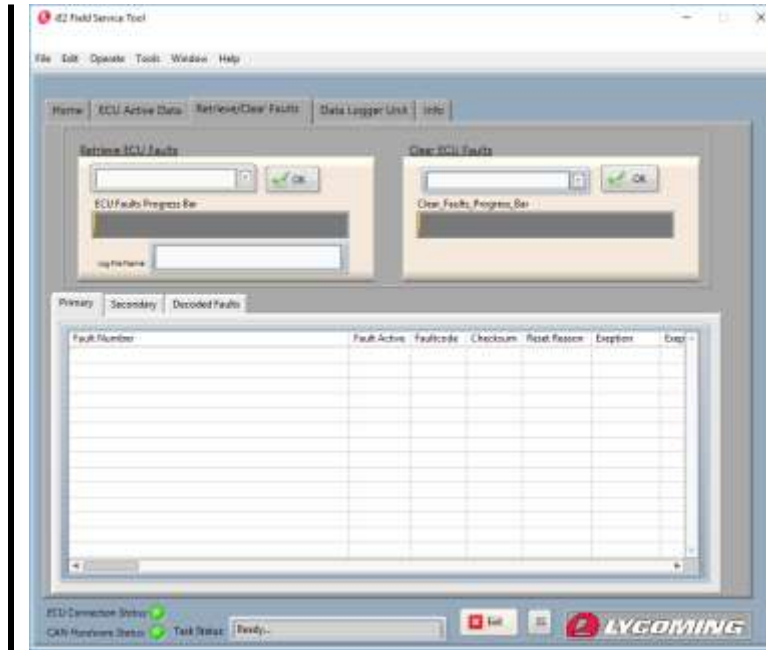

Figure C-27
2. Click on the “Retrieve/Clear Faults” tab (Figure C-27).